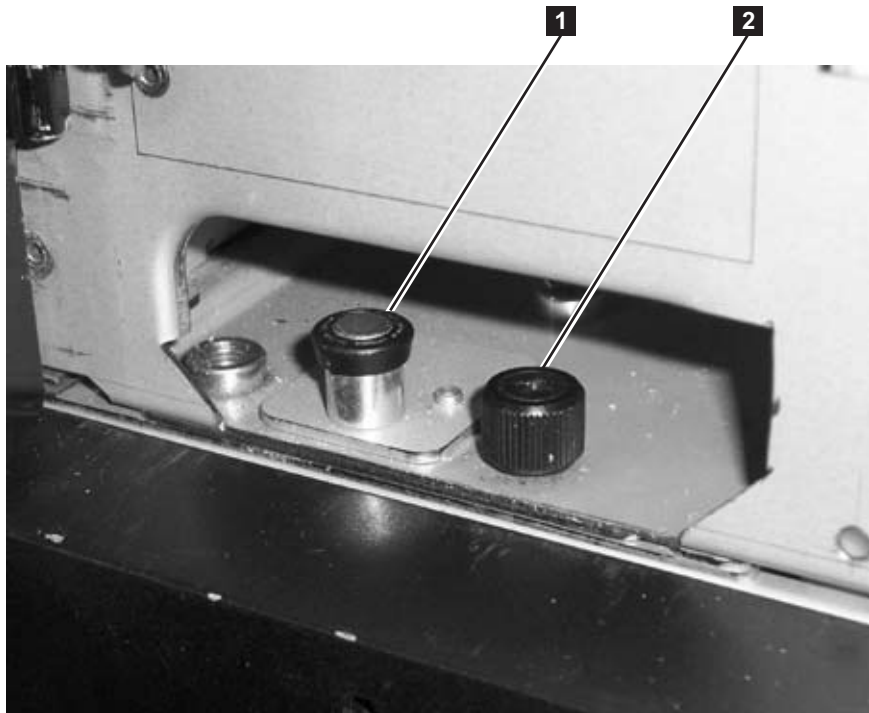
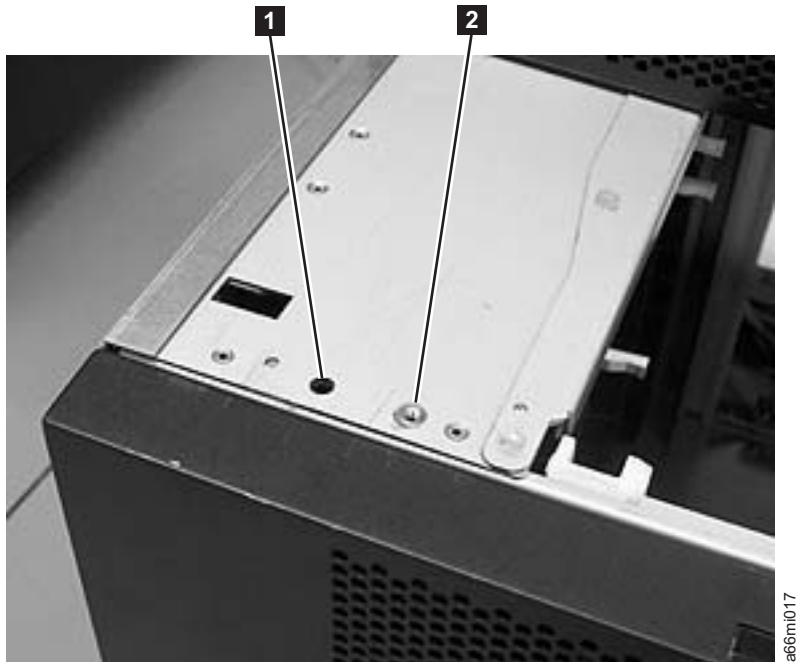

Figure 8-4. Alignment pin and front thumb screw
Figure 8-6. Alignment pin and front thumb screw receptacles
9. Open the I/O Station door then the Access Door of the control module to expose the control module alignment pin (**1** in Figure 8-4 on page 8-7) and front thumb screws (**2** in Figure 8-4 on page 8-7) behind the Access Door and behind the I/O Station door.
2. Ensure that the module-to-module alignment pin (**1** in Figure 8-4 on page 8-7) is in the raised position. If necessary, raise the pin and rotate it half a turn to lock it in the raised position.
6. Twist the control module alignment pin (**1** in Figure 8-4 on page 8-7) to unlock it from the up position.
7. Adjust the control module's position on top of the expansion module until the control module alignment pin drops into the alignment pin receptacle (**1** in Figure 8-6) in the lower expansion module.
8. Tighten the front thumb screw (**2** in Figure 8-4 on page 8-7) to secure the front of the control module to the lower expansion module (**2** in Figure 8-6).